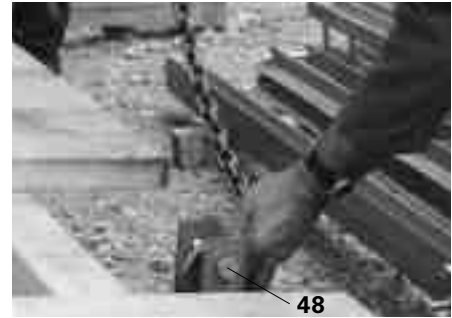

Fig. B1.23
2. Attach 4-sling lifting gear to the four Bolts ISO 4014 M16 x 130-8.8 (48) and move finishing platform to the assembly area. (Fig. B1.23)